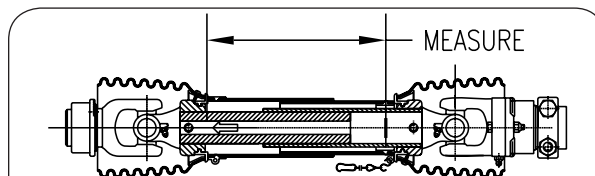

FIG. 4-54
7. Measure the length "L" from the same points as used in step 1. **This distance must be at least 1.5 inches greater than the distance measured in step 1.** If necessary, adjust the length of the PTO shaft by cutting the inner and outer plastic guard tubes and inner and outer sliding profiles by the same length. Round off all sharp edges and remove burrs before greasing and reassembling shaft halves. (Fig. 4-54)